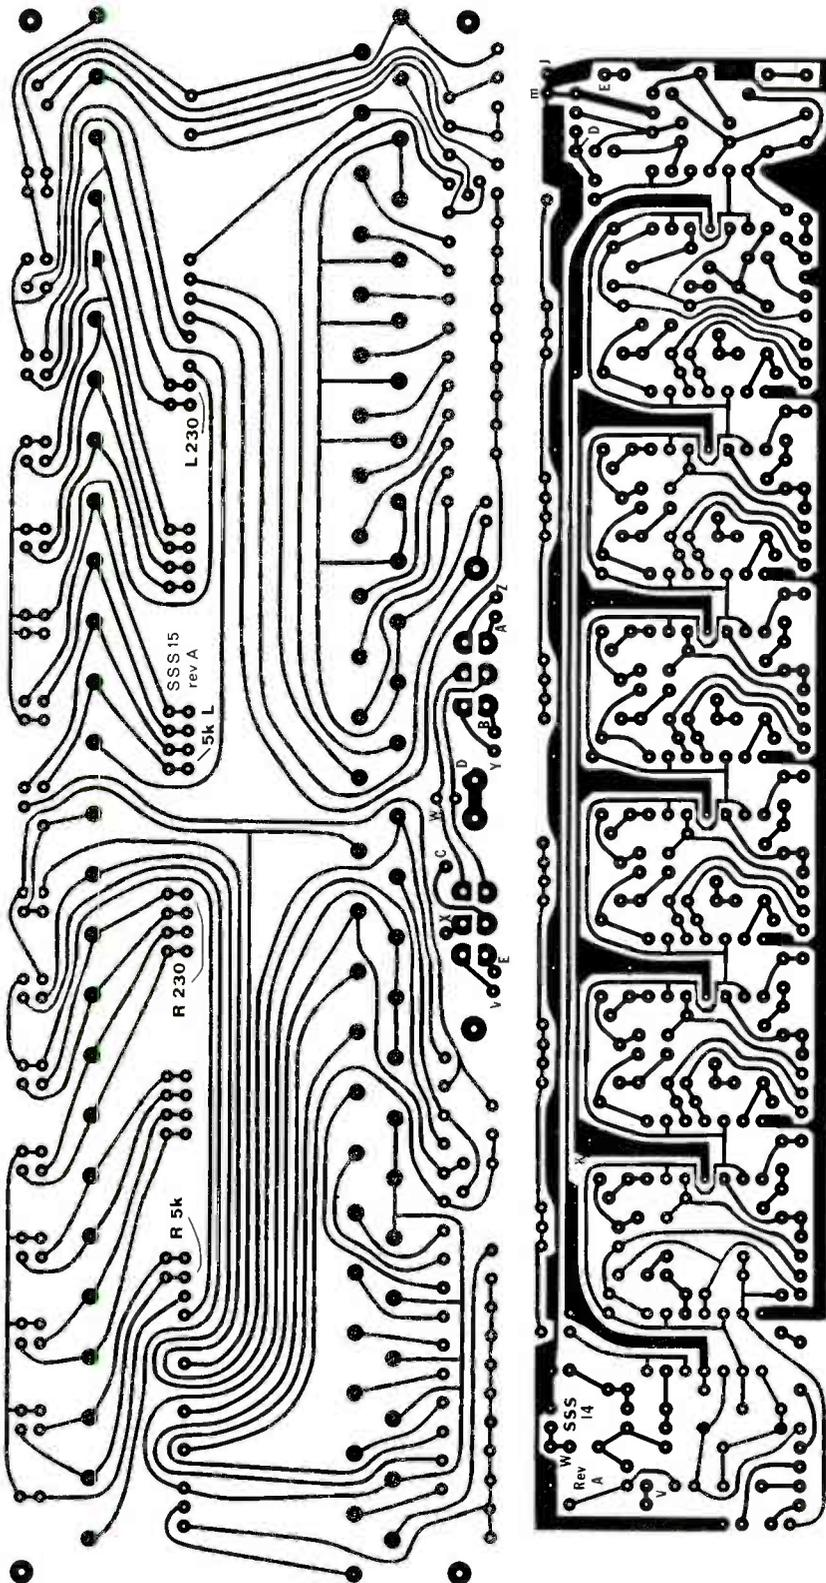
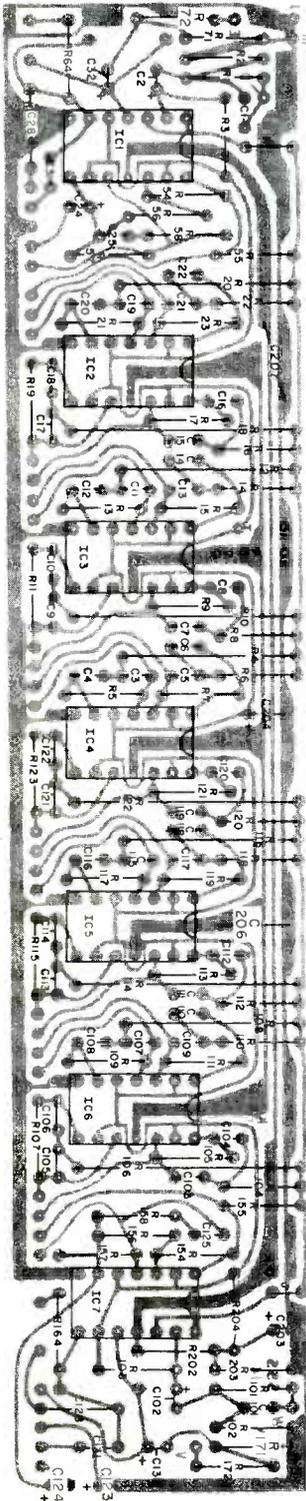

Fig. 3. Foil patterns for the Equalizer pc boards
Fig. 4. Component layouts for the pc boards.
**Construction.** The Optimized Equalizer, except for the power supply input connectors and options, is built on two pc boards. The foil patterns for these boards are shown in Fig. 3, and the parts placement diagrams are given in Fig. 4. By placing all the controls on one board (the vertical board) and most of the remainder of the unit on the horizontal board, front panel space requirements are minimized. This makes for an efficient, compact assembly. The boards are connected